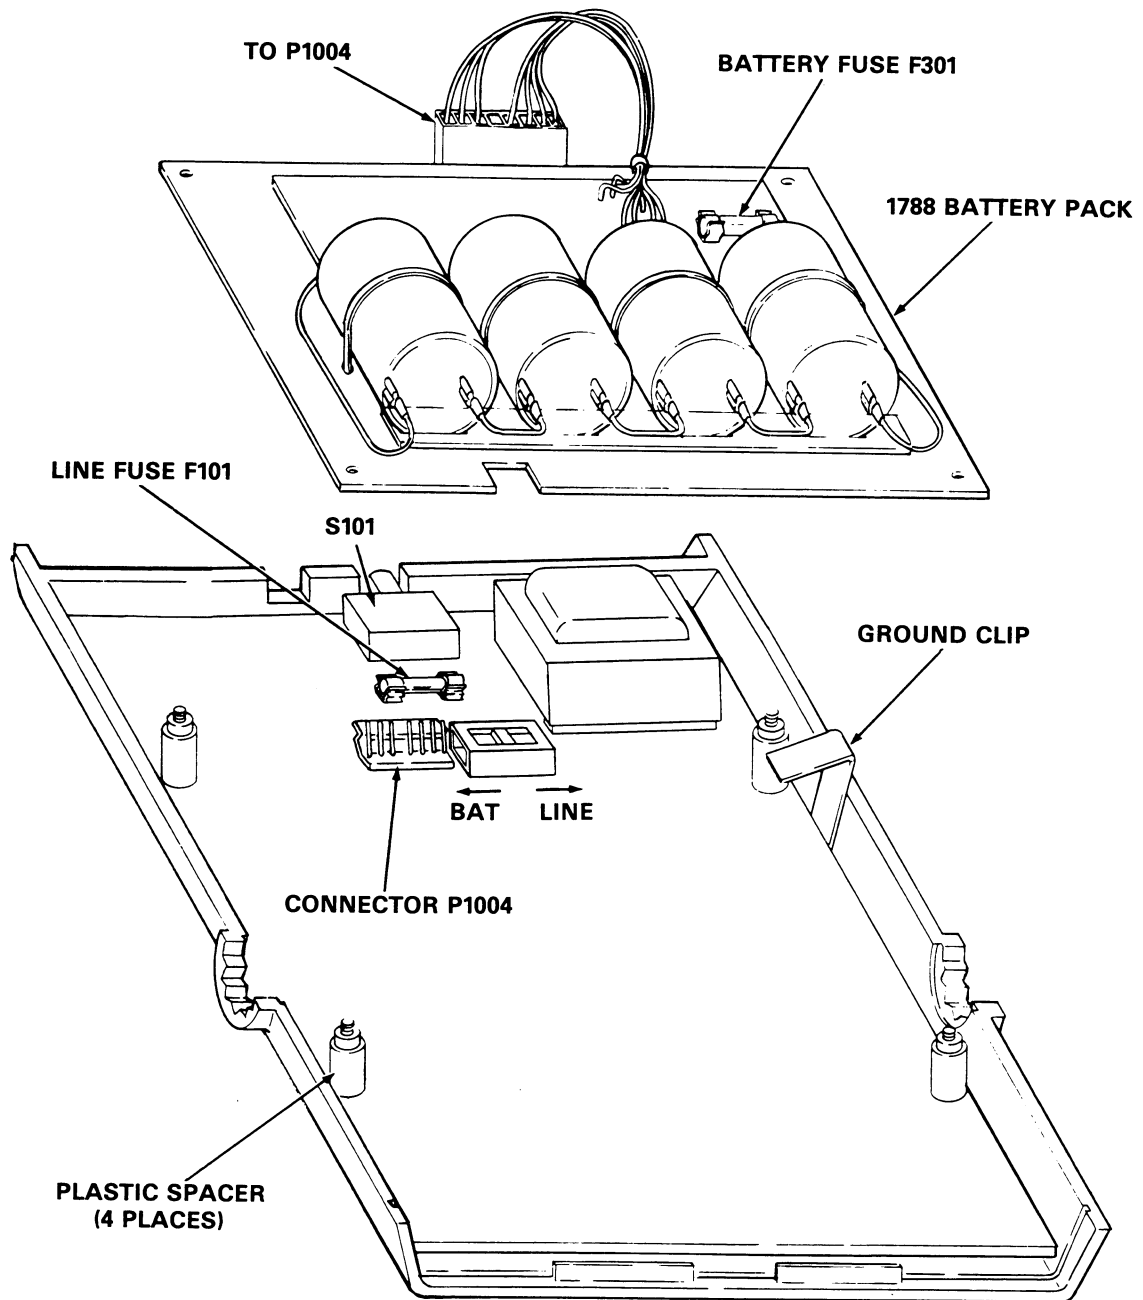

Figure 6-3. Battery Pack Installation
2. Set the BAT/LINE switch to the BAT position shown in Figure 6-3. Note that the battery pack will not operate properly if this switch is not in the BAT position.
2. Refer to Figure 6-3, which shows the location of the line fuse (F101) and the battery fuse (F301). To replace the fuse, simply pry the old fuse out of the holder with a screwdriver.